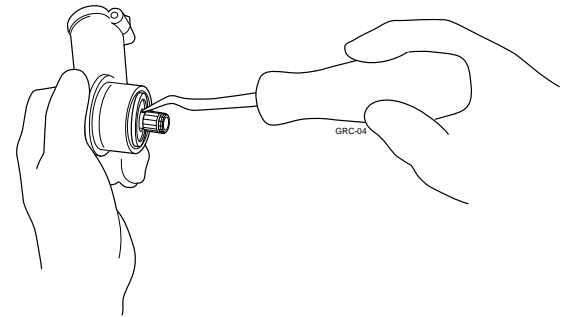

Figure 11.4 Use a pick or small screwdriver to pry out the output seal from the gearcase.
■ To remove the output seal from these models, use a pick or small screwdriver to pry the seal from the gearcase (Figure 11.4).